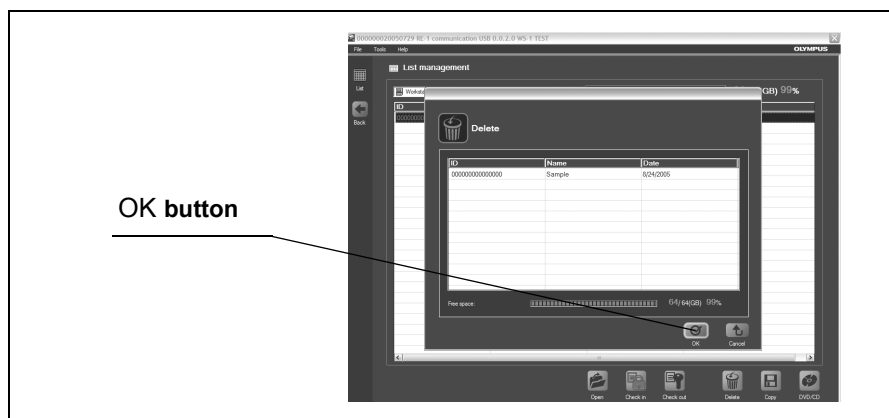

Figure 6.93
3. Click the [OK] button on the examination data deletion screen (see Figure 6.93). The selected examination data will be deleted. A progress screen is displayed while the examination data is being deleted.